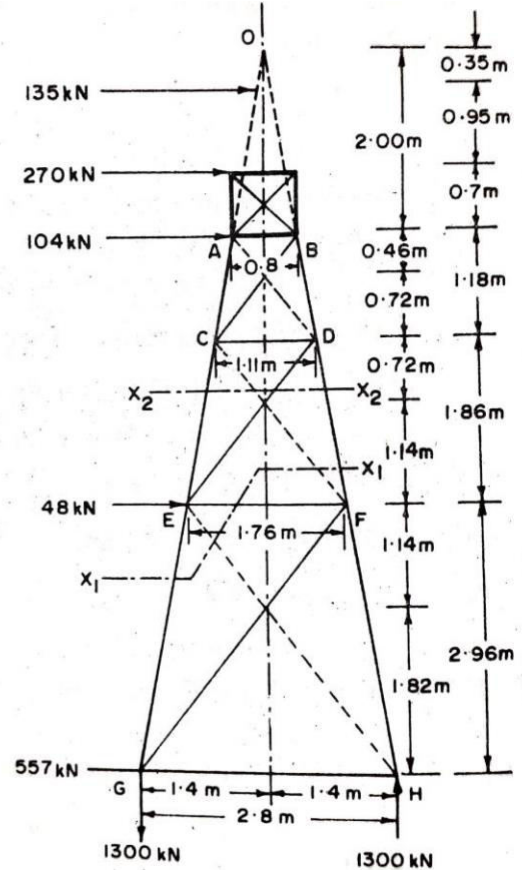

Figure 2
10. Analyse the steel tower subjected to loads as shown in Figure 2 [12M]